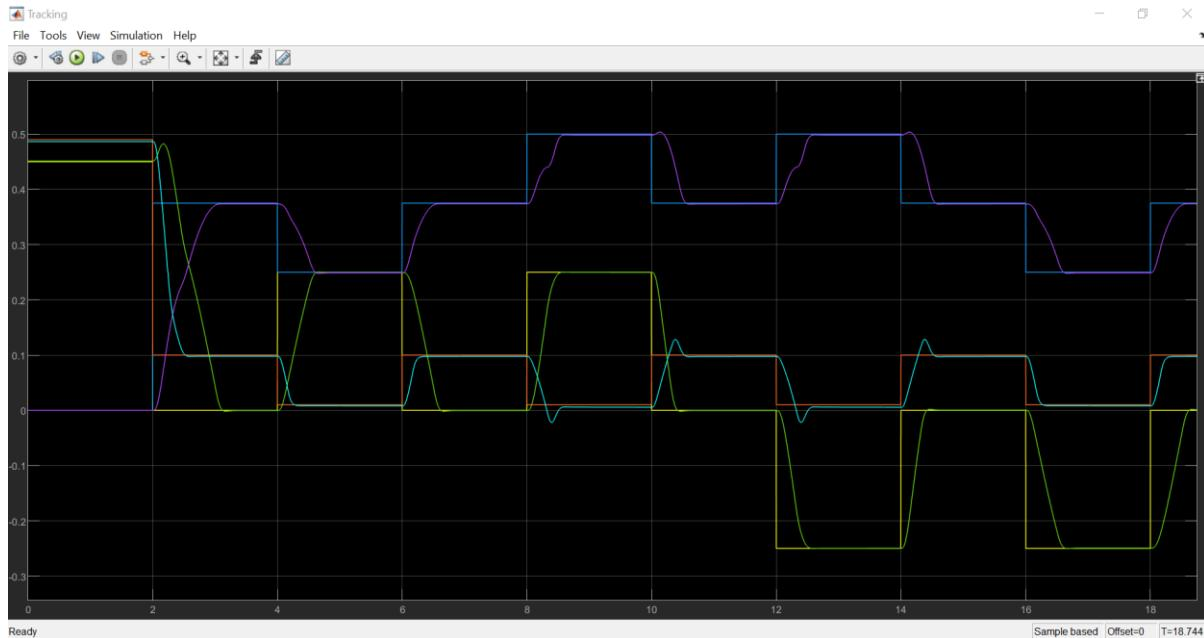

Figure 2.5: Sample result showing commanded and actual end-effector positions
5. Use the **Tracking** scope to monitor the desired and actual end-effector positions as the manipulator follows the learned waypoints. Sample results are shown in Figure 2.5.